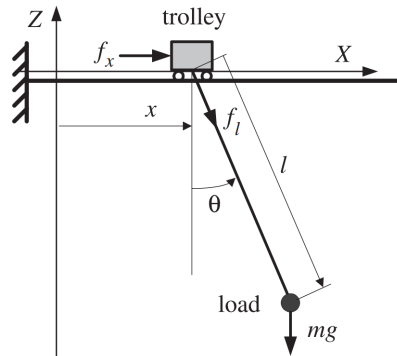

Figure 3: Plane model of an overhead crane system
3. A plane (two-dimensional) model of an overhead crane and its load is depicted in Figure 3, where x , θ and l are the trolley position, swing angle, and hoisting rope length (variable), respectively. The trolley is driven by a force f_x , and load is suspended from the trolley by a rigid rope and driven by a force f_L . Assume that the mass of the crane is divided into m_x (traveling) and m_l (hoisting down) components, which include the equivalent masses of the rotating parts such as motors and their drive trains. In addition d_{vx} and d_{vl} denote the viscous damping coefficients associated with the x and l motions, respectively.